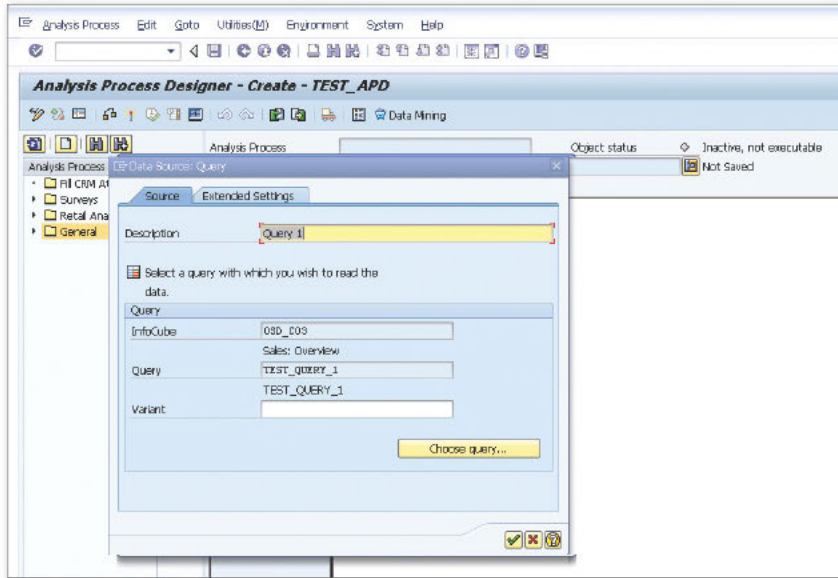

Figure 2 Selecting the First Query
1. Under the DATASOURCES option, click on the QUERY icon to open the DATA SOURCE: QUERY screen (see Figure 2). In this screen, select QUERY as the Data Source, and input the name of the first query. You have to specify the INFOCUBE name first, that is, "OSD_C03".